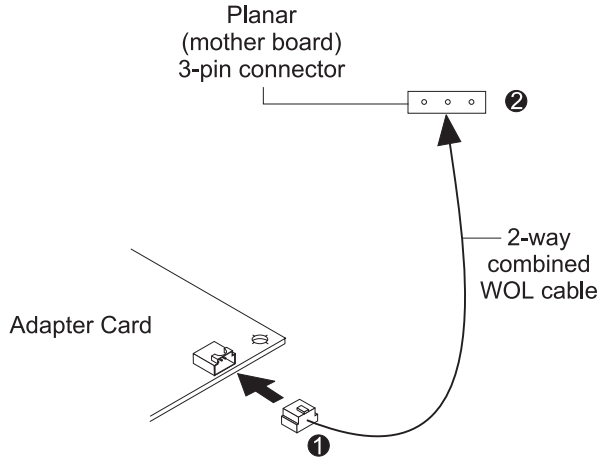

Figure 2-3. Connecting the Combined Signal and Power Cable to Your PC
- A 2-way combined Wake on LAN signal and power cable (IBM PN 08L2559) as shown in Figure 2-3 on page 2-5, to be used between the adapter and PC model that has a combined signal
- 1** Connect one end of the 2-way combined Wake on LAN cable to the Wake on LAN 3-pin connector on the adapter as shown in Figure 2-3 on page 2-5.